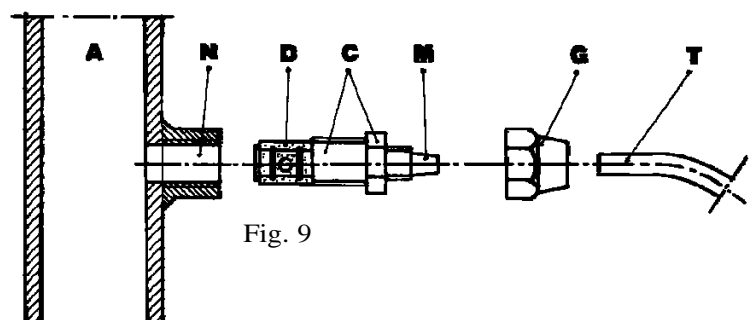

Fig. 9
h. Select the most appropriate injection point on a pipe of the plant to be treated and fit a steel 3/8" female gas connector. This connector is not supplied with the pump. Screw the injection valve to the gas connector, using Teflon® tape as a gasket as shown in Fig. 9. Connect the discharge piping to the conical connector on the injection valve and lock it with the ring-nut G. The injection valve also acts as a non-return valve.
| (fig.9) | |